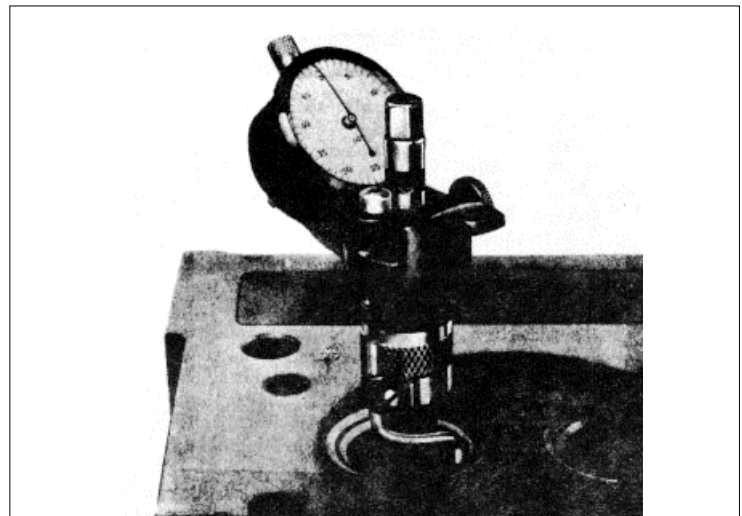

Fig.17 Determining Concentricity of Valve Seat Insert with Dial Indicator
- (4) After grinding has been completed, clean the valve seat insert thoroughly with fuel oil and dry it with compressed air. Set the dial indicator J 8165-2 in position as shown in Fig.17 and rotate it to determine the concentricity of each valve seat insert relative to the valve guide. If the runout exceeds .002", check for a bent valve guide before regrinding the insert.